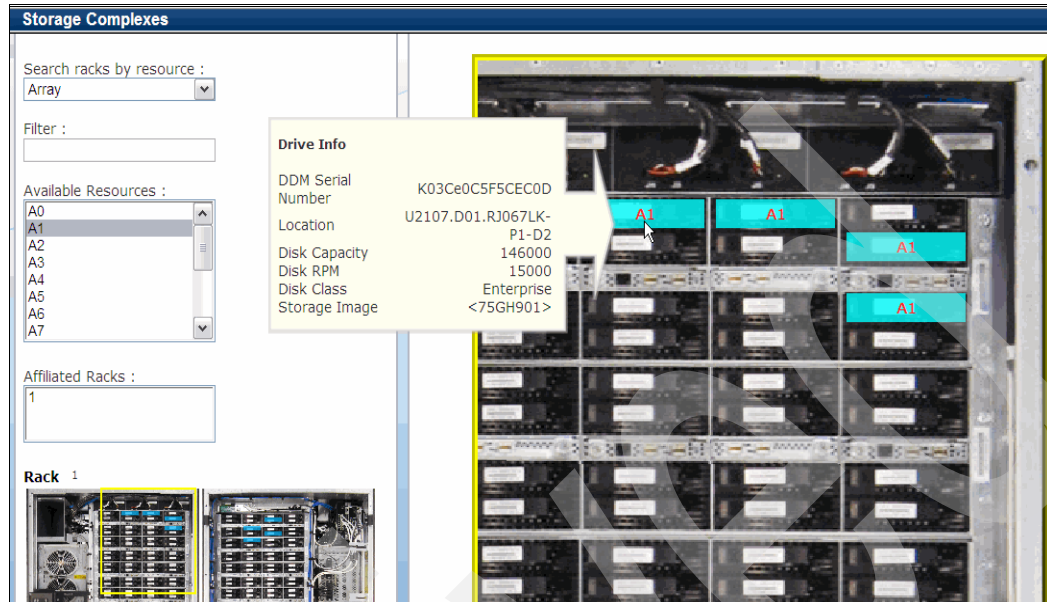

Figure 13-80 DDM information
- Once you have identified the location of array DDMs, you can position the mouse pointer over the specific DDM to display more information, as shown in Figure 13-80.